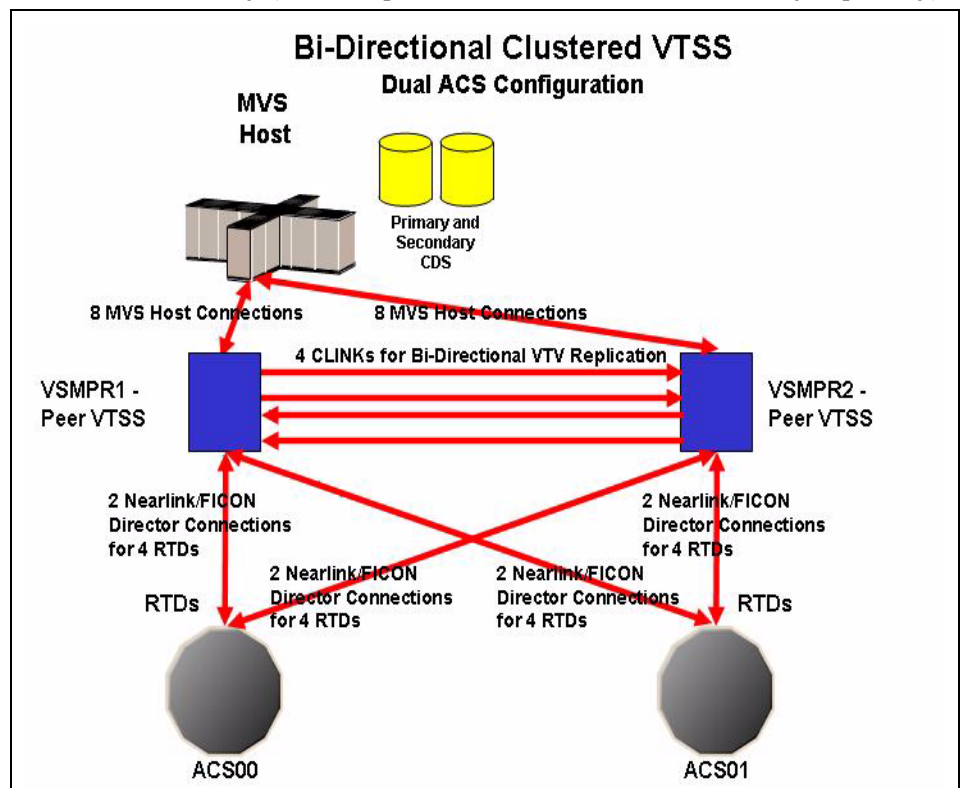

Figure 4. Bi-Directional Cluster attached to a Dual ACS
- *Bi-Directional Clusters*, which consist of two *Peer VTSSs* connected by one or more cluster links (CLINKs). Figure 4 shows a Bi-Directional Cluster attached to a single ACS. The `CONFIG CLUSTER` statement defines the Cluster, and the `CONFIG CLINK` statement(s) this Cluster as Bi-Directional.
Figure 4 shows a Peer-to-Peer VTSS Cluster cross-connected to two ACSs for increased redundancy (for example, for enhanced Disaster Recovery capability).